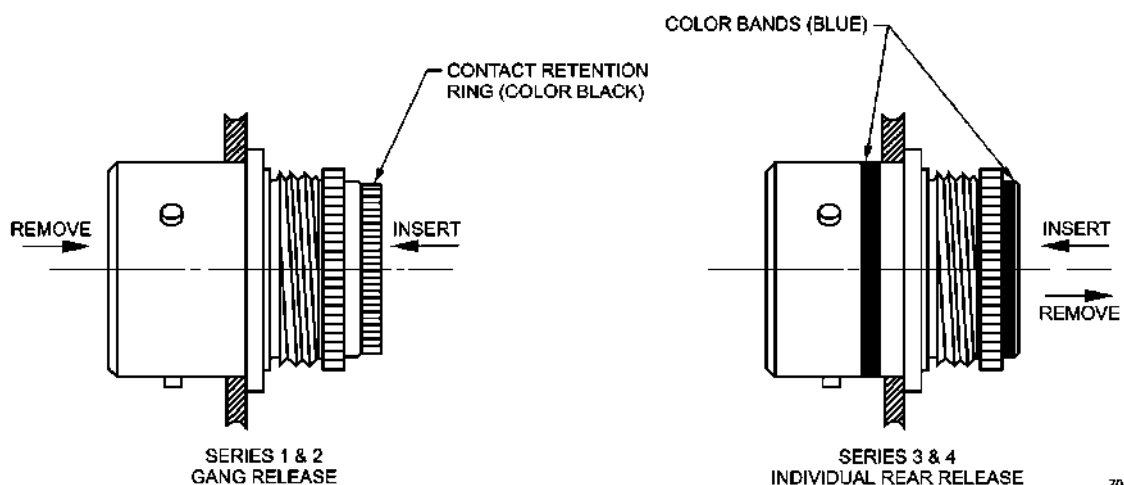

Figure 10-57 Colour Marking for Individual Release MIL-C-81511 Connectors
- h. Cable Clamps for MIL-DTL-38999 connectors are described in paragraph 98 and Figure 10-57.**